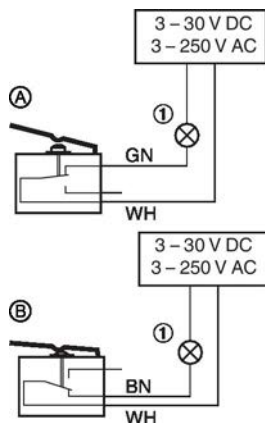

Fig. 65: Wiring of limit switches, example
- The limit switches must be connected according to the wiring example Fig. 65